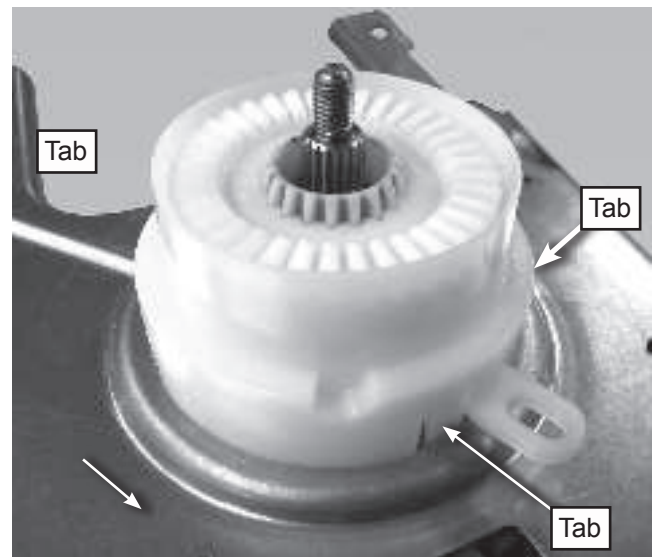

Figure 2
7. Unsnap the tabs that secure the splutch housing and lift off, see figure 2.